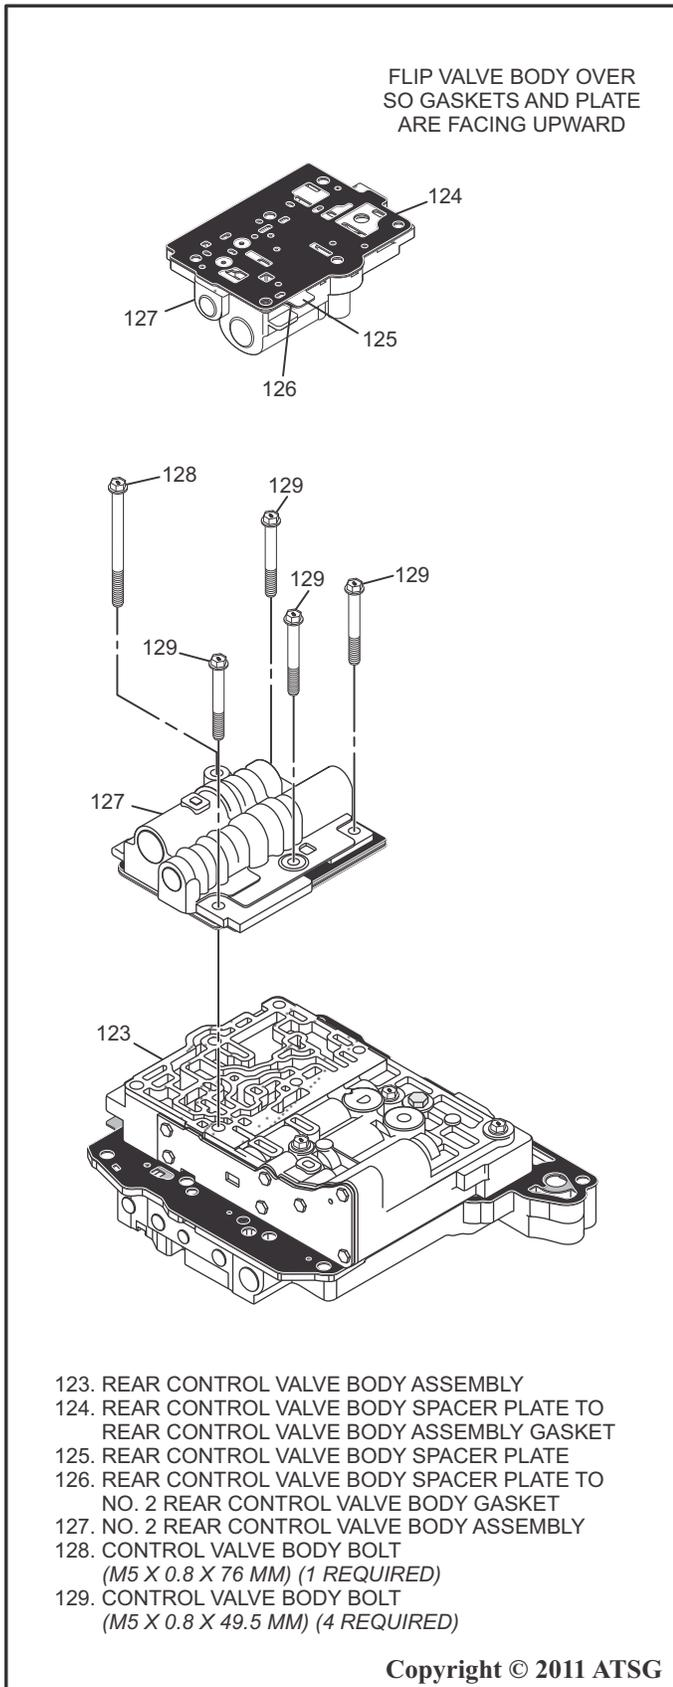

Figure 159
11. Flip the control valve body assembly over so the No. 2 rear control valve body is facing upward and remove the five control valve body bolts using an 8 mm socket as shown in Figure 159.
12. Remove the No. 2 rear control valve body, the No. 2 rear control valve body spacer plates and both gaskets as an assembly by holding the spacer plate against the No. 2 rear control valve body and lift gently away from the rear control valve body as shown in Figure 159.
13. To avoid losing small parts, flip the No. 2 rear control valve body assembly so the gaskets and spacer plate are facing upward and lay on the work area for disassembly as shown in Figure 159.